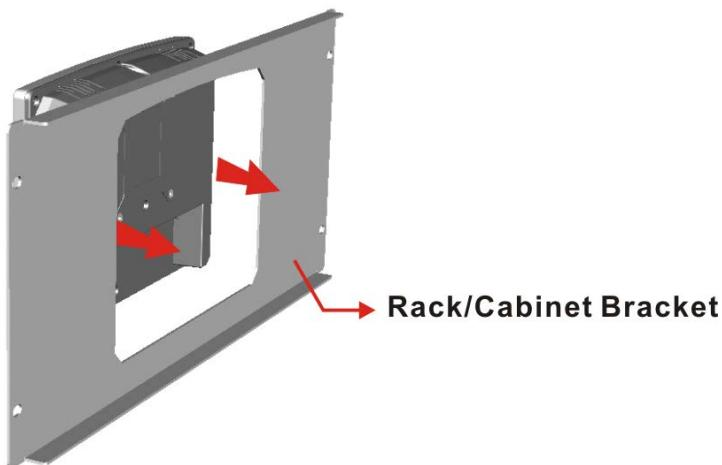

Figure 3-16: Rack/Cabinet Bracket Installation
- Step 1:** Slide the rear chassis of the AFL3-08A-BT panel PC through the rack/cabinet bracket until the frame is flush against the front of the bracket (**Figure 3-16**).